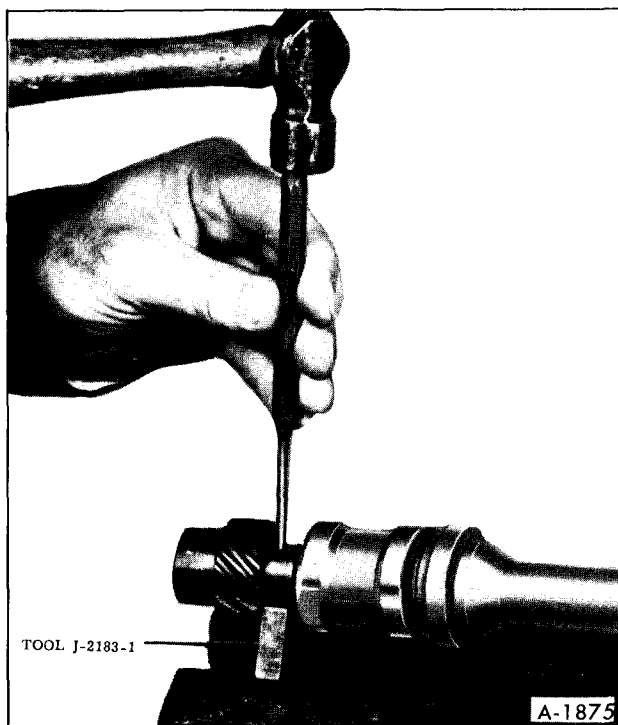

Figure 36-Removing Roll Pin
2. Drive out the roll pin. (figure 36)